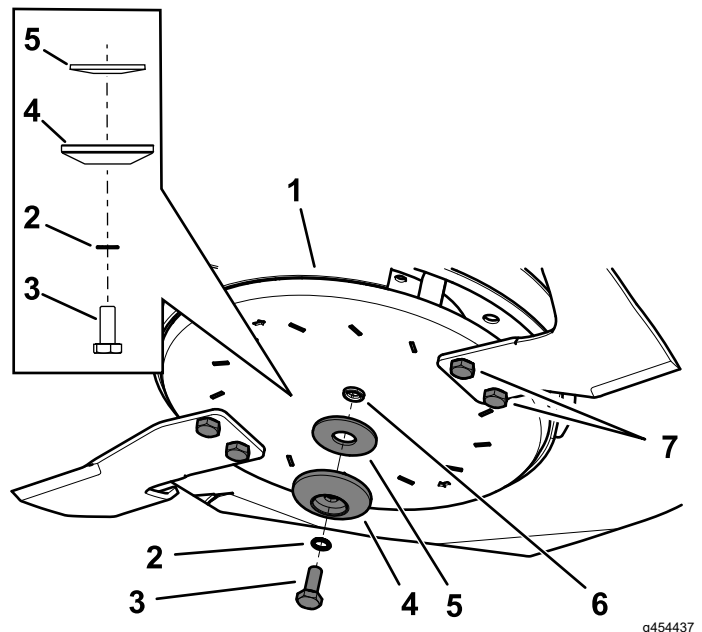

Figure 111
2. Install the wing blade assembly using the previously removed disc bolt, serrated washer, blade retainer, and curved washer (Figure 111).